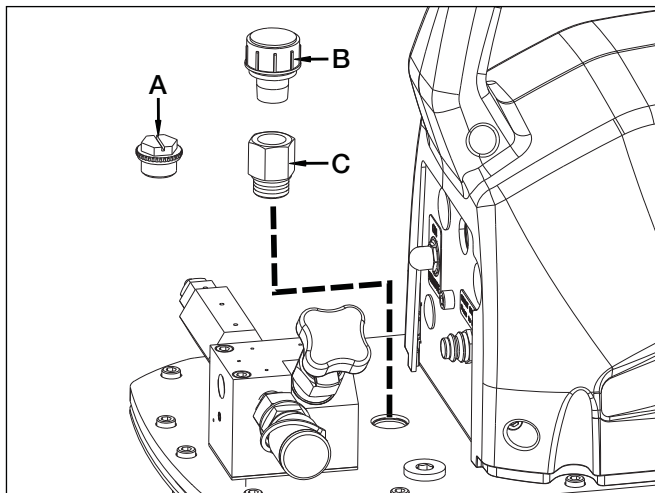

Figure 1, Air Breather
4.1 Air Breather (See Figure 1)